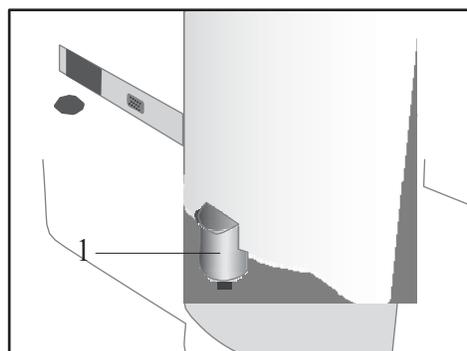

Fig 1.12: Rear of CliniMACS® plus Instrument with installed stabilization foot.
10. A stabilization foot (1, Fig. 1.12) is included in your delivery. Please keep this foot for later installation by our Technical Service or an authorized representative. The foot will be installed at the back of the instrument.